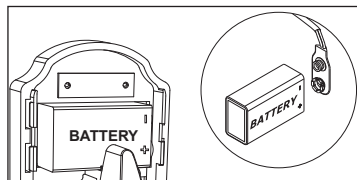

Fig. 12
**Step 6.** Install the included **9V alkaline** battery or rechargeable battery into battery compartment (Fig. 12).